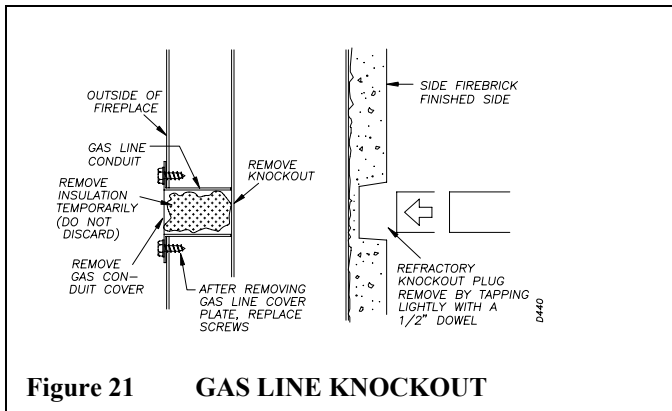

Figure 21 GAS LINE KNOCKOUT
STEP 1: To install, remove the knockout indentation on the refractory, (or firebrick), wall located above the refractory hearth floor. The knockout indentation must be firmly tapped with any solid object until it is released. Remove fragmented portions of refractory (see figure 21).